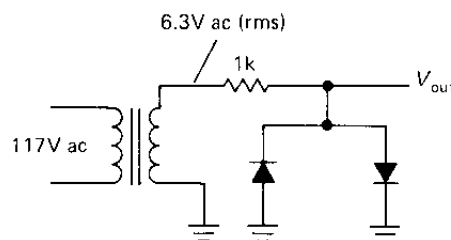

Figure 1.105
(7) Sketch the output for the circuit shown in Figure 1.105.